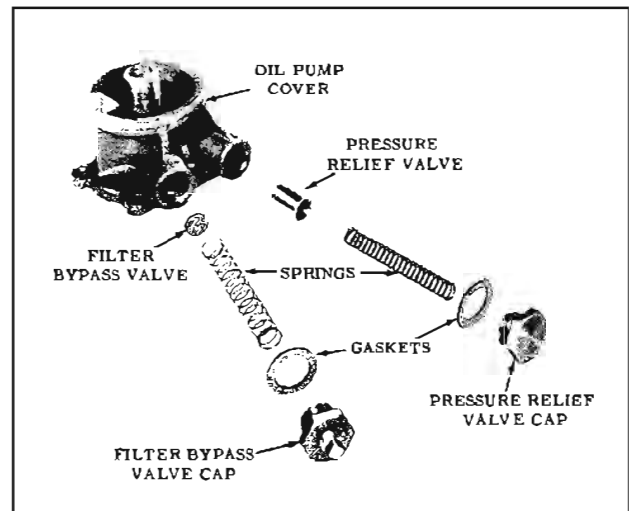

Fig. 8-139 Pump Assembly
1. Remove oil filter by-pass valve cap. (Cap with pressure switch.) (Fig. 8-139)